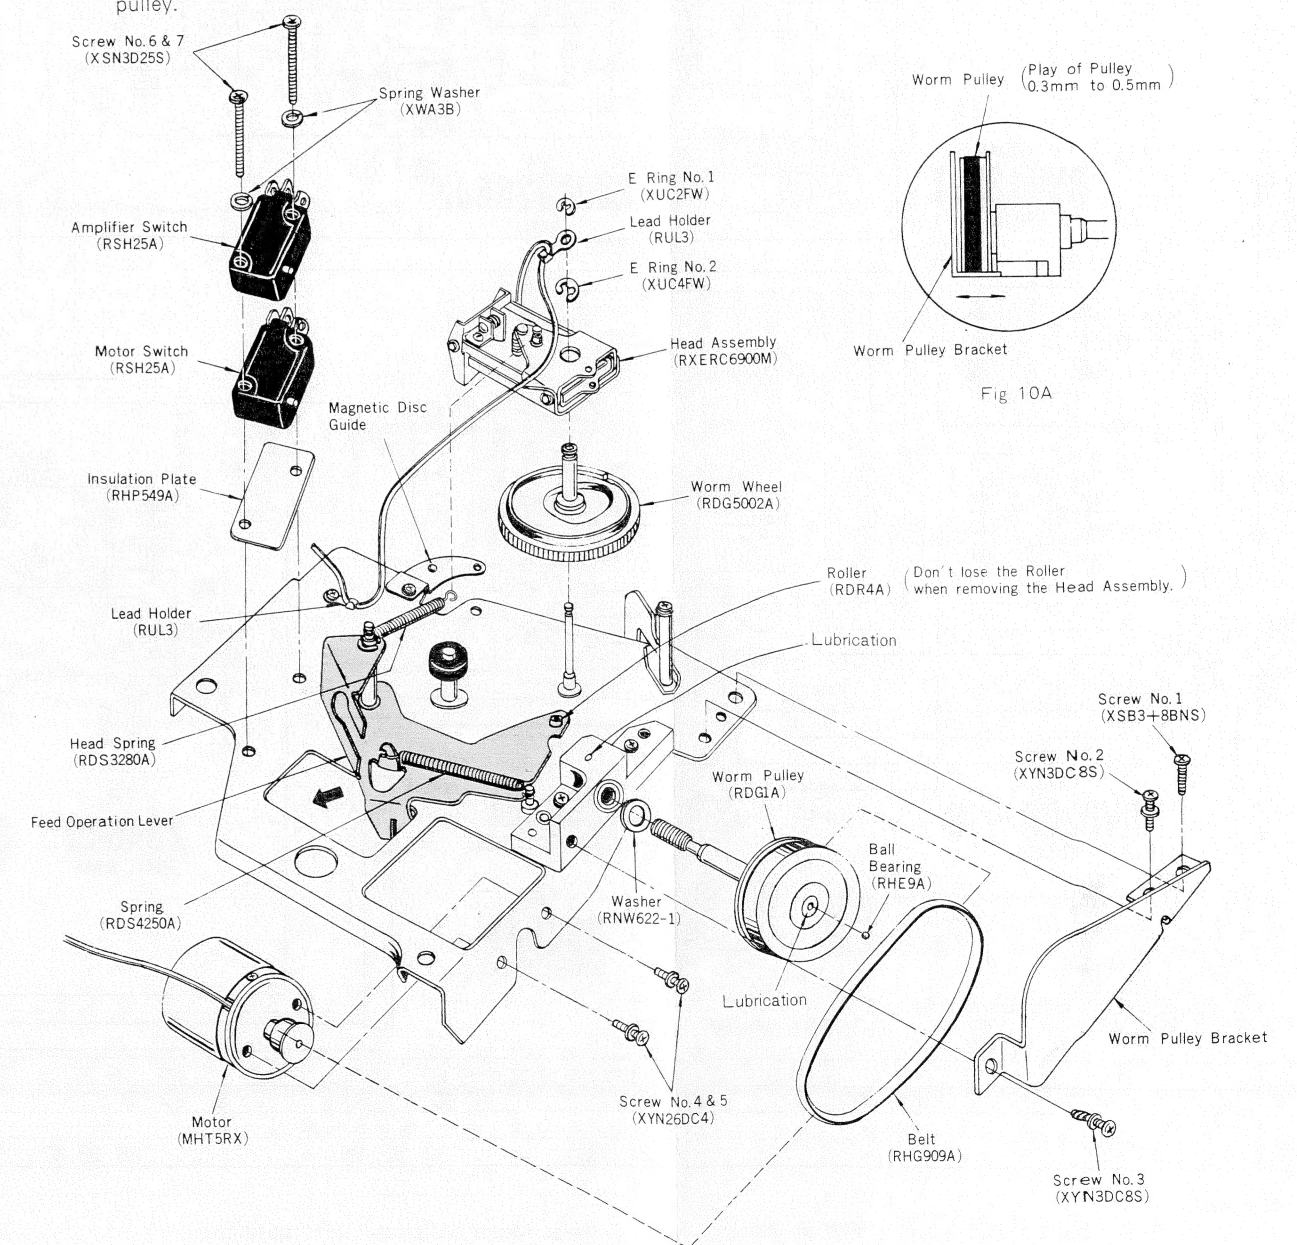

Fig. 10
1. Remove the head lead wires from two positions on the lead holder, as shown in fig. 10.
2. Remove the head spring, as shown in fig. 10.
3. Remove E ring 1 holding the head assembly, as shown in fig. 10.
4. Remove E ring 2 holding the worm wheel, as shown in fig. 10.
Notes: 1. Be careful not to lose the roller shown in fig. 10 when the head assembly and worm wheel are removed.
2. When installing the worm wheel, set the feed operation lever (colored), shown in fig. 10, in the direction of the arrow and insert the worm wheel until it is completely joined with the pulley.
1. Remove set screws 1~3 holding the worm pulley, as shown in fig. 10.
5. Remove screws 4 and 5 holding the motor, as shown in fig. 10.
2. Remove screws 6 and 7 holding the amplifier and the motor switch, as shown in fig. 10.